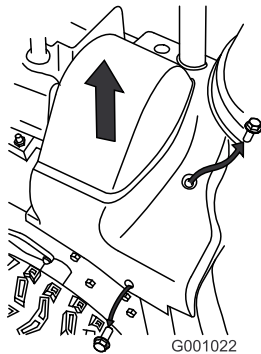

Figure 48
2. Lift up the right side of the belt cover (Figure 48).